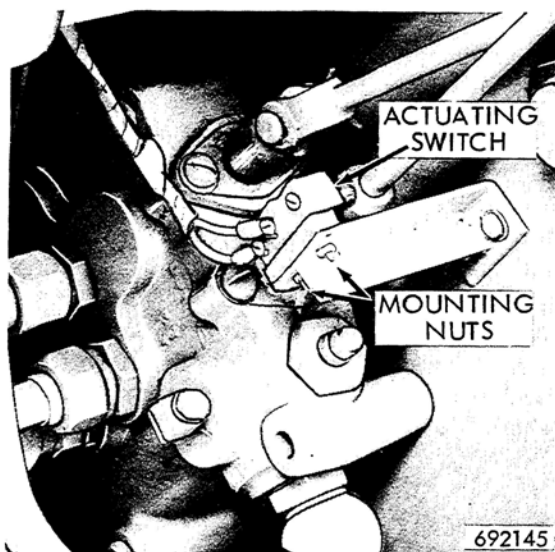

Figure 16
3. Remove plug from control valve and install a 0-2000 PSI pressure gauge, Figure 16.